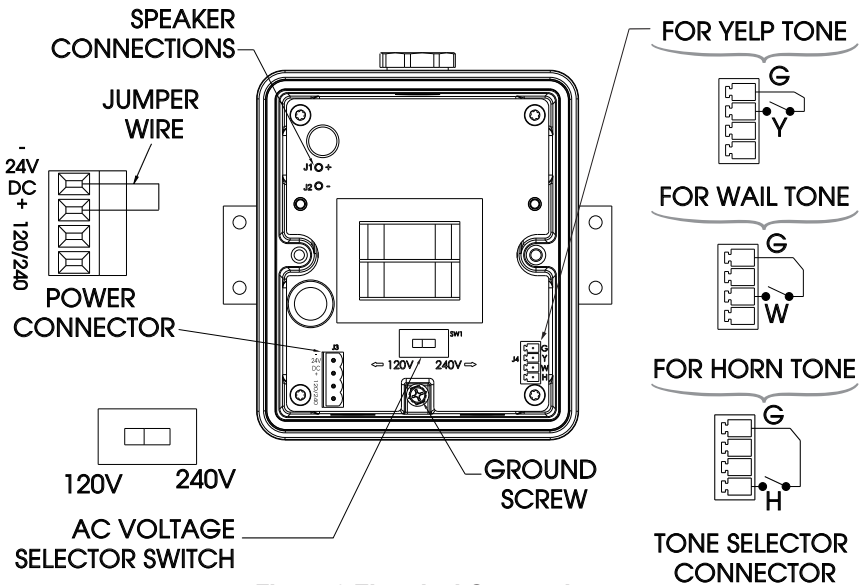

Figure 2 Electrical Connections
1. 120/240VAC Wiring (See Figure 2)
2. 24VDC Wiring (See Figure 2)
3. Tone Activation Wiring (See Figure 2)
- i. Connect switch wires to the 3.81mm J4 connector plug per Figure 2.
- i. Connect jumper wire to the 3.81mm J4 connector plug per Figure 2.